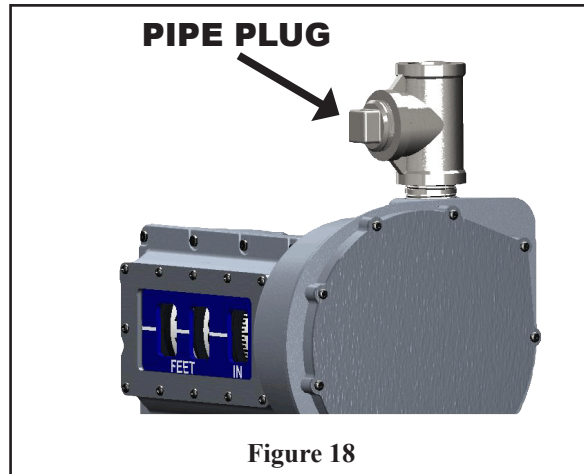

Figure 18
1. Remove the pipe plug and grab onto the cable (See Figure 18.)